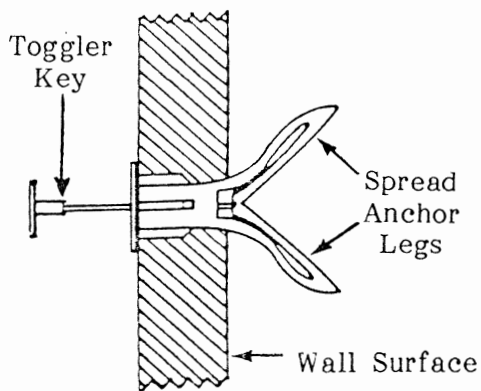

FIGURE 4
**01.22** Insert a toggler key into the small hole in the neck of each fastener, as shown in Figure 4. This should cause the anchor legs to "pop" open. Remove the toggler key.